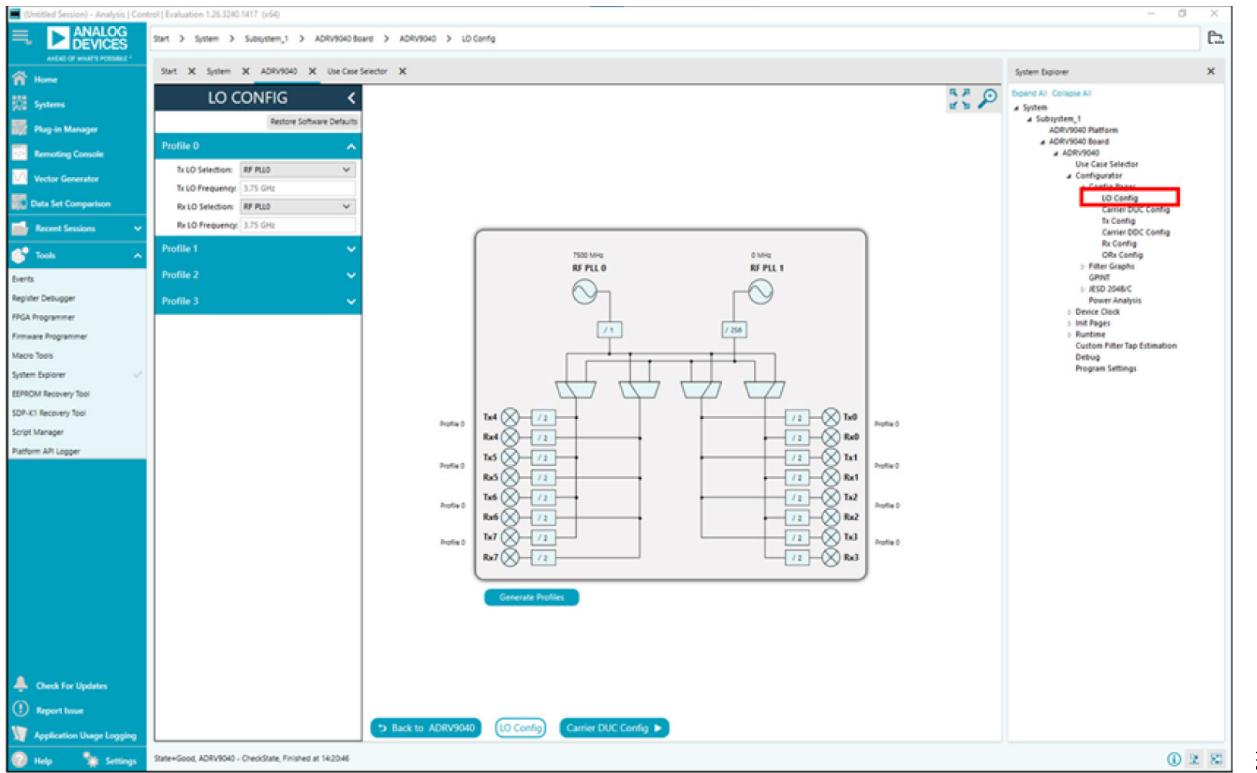

Figure 14. LO Config Page Showing ADRV904x LO Generation Setup for Given LO Frequency
After setting the desired profile mappings on the **Top Level Config** page, the user can navigate to the **LO Config** page. Click on the **LO Config** button at the bottom of the **Top Level Config** page as shown in Figure 14.
Note that profile generation requires all the **Configurator** pages to be set up correctly, otherwise errors might occur. An error is also displayed if the user selects an out of range or invalid setting for any of the available parameters. These error messages can be accessed from the left panel of the **ACE** under **Tools > Events**. If at any point the configurator is put into a bad state, the user can click on **Restore Software Defaults** to return to a known good state as shown in Figure 14.
Once profiles are generated without error, the LO diagram updates to show a high level view of the LO generation setup inside the ADRV904x device for all assigned profiles, which includes the mux connections, radio frequency (RF) phase locked loop (PLL) voltage controlled oscillator (VCO) frequencies, and dividers used per receiver and transmitter channels. Figure 14 shows the **LO Config** page with the LO set to **3.75 GHz**.